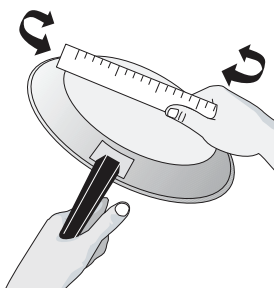

Figure 3: Checking the pan for flatness
- Check that cookware bottom rests level on cooktop surface. Cookware should have flat bottoms that make good contact with the entire induction cooking zone area. Check for flatness by rotating a ruler across the bottom of the cookware (Figure 3).